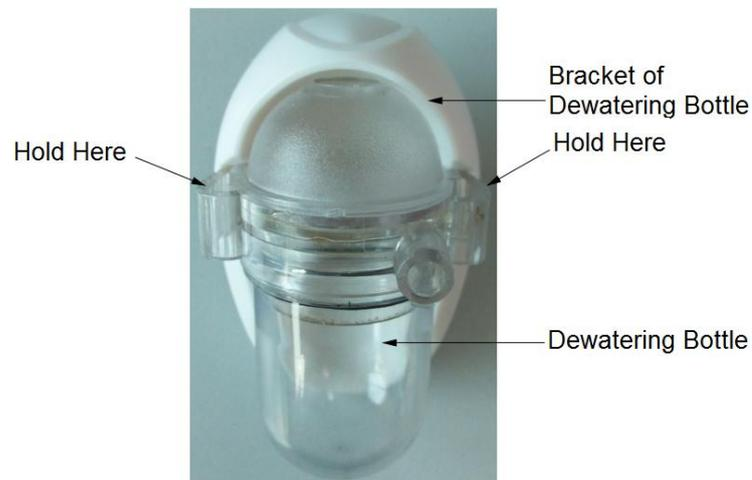

Figure 6.28 Dewatering Bottle Attaching and Detaching Diagram
2. As shown in Figure 6.28, hold the two ends of dewatering bottle and gently pull the tube down to remove water.